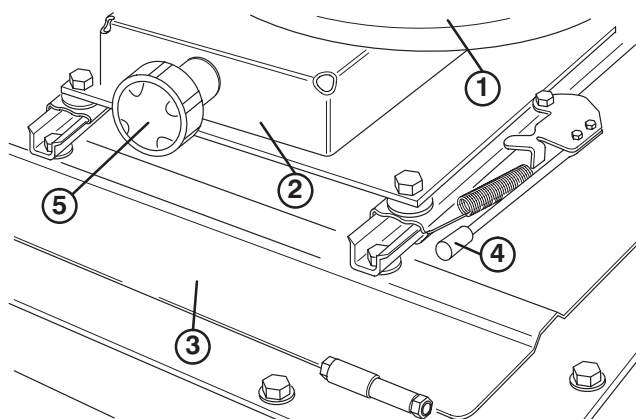

Figure 8
7. Adjust seat for operator's comfort and weight. To adjust seat fore and aft, pull handle on left side of seat assembly outward (Fig. 8). Release handle to lock seat
position. To adjust for operator's weight, turn spring tension knob; clockwise to increase tension, counterclockwise to decrease spring tension (Fig. 8).